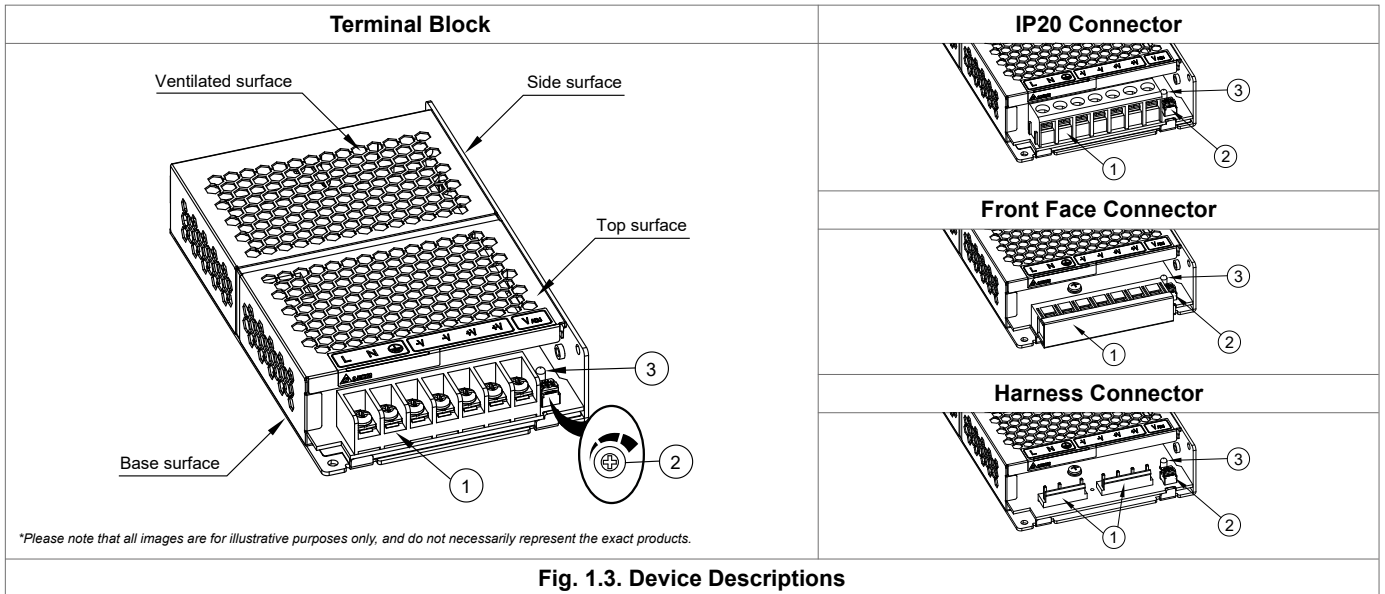

Fig. 1.3. Device Descriptions
► **PMH-100WCL□, PMH-100WCM□, PMH-150WCL□** (Refer to Fig. 1.3)
- ① Input & Output connector
- ② DC voltage adjustment potentiometer
- ③ DC OK control LED (Green)